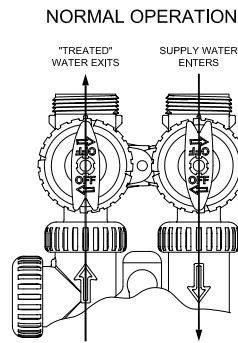

figure 1
1. Normal Operation Position: The inlet and outlet handles point in the direction of flow indicated by the engraved arrows on the control valve. Water flows through the control valve during normal operation and this position also allows the control valve to isolate the media bed during the regeneration cycle. (see figure 1)
When water is flowing steadily to drain without the presence of air, momentarily press  again. Display will read **RINSE**. Open the outlet valve of the softener, or if using optional bypass place to **NORMAL OPERATION MODE** (see figure 1 on page 5). Allow control to finish the **RINSE** cycle. Allow the control to automatically advance to the **SOFTENING** position. Now load the brine tank with salt. Solar Salt is recommended. The brine tank salt level should be checked every couple of weeks to determine salt usage. Keeping the brine tank salt level at least 1/2 full is recommended.